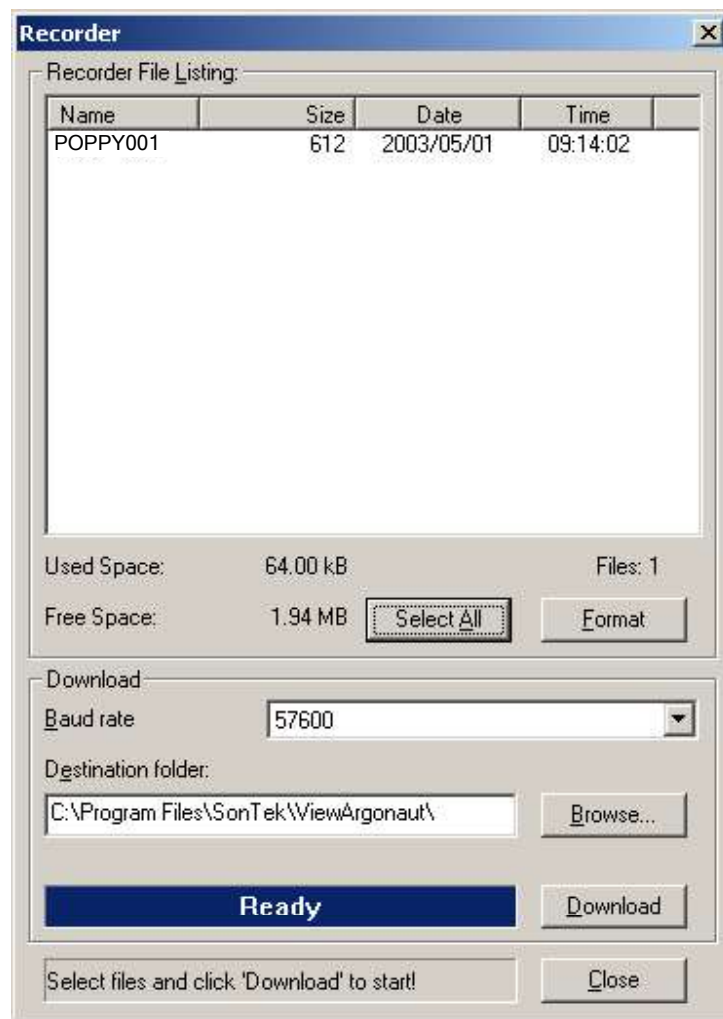

Figure 5-49. Deployment Software: Show Recorder Details
- The **Show Recorder Details** button can be used to view the current contents of the internal recorder, to download data from the recorder, and to format the recorder. An example of the **Recorder** dialog box is shown in Figure 5-49.
- Features of the **Recorder** dialog box (Figure 5-49):